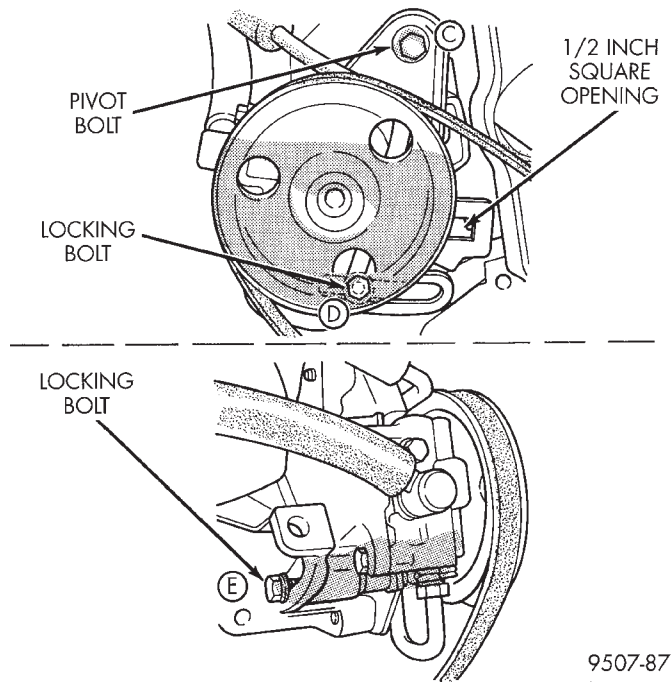

Fig. 37 Power Steering Belt Adjustment
(1) From the top of the vehicle loosen pivot bolt C.
(2) From under the vehicle loosen locking bolts D and E (Fig. 37).
(4) Tighten locking bolt D to 54 N·m (40 ft. lbs.) (Fig. 37).
(5) Tighten locking bolt E and the pivot bolt C to 54 N·m (40 ft. lbs.)